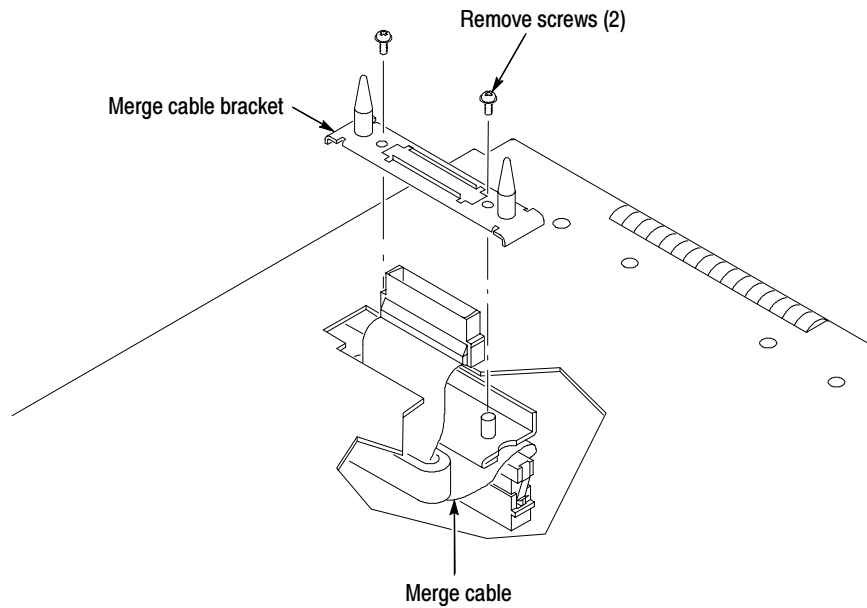

**Figure E-6: Feeding the merge cable through the cover**
9. Replace the cover while feeding the merge cable through the hole in the cover (see Figure E-6).